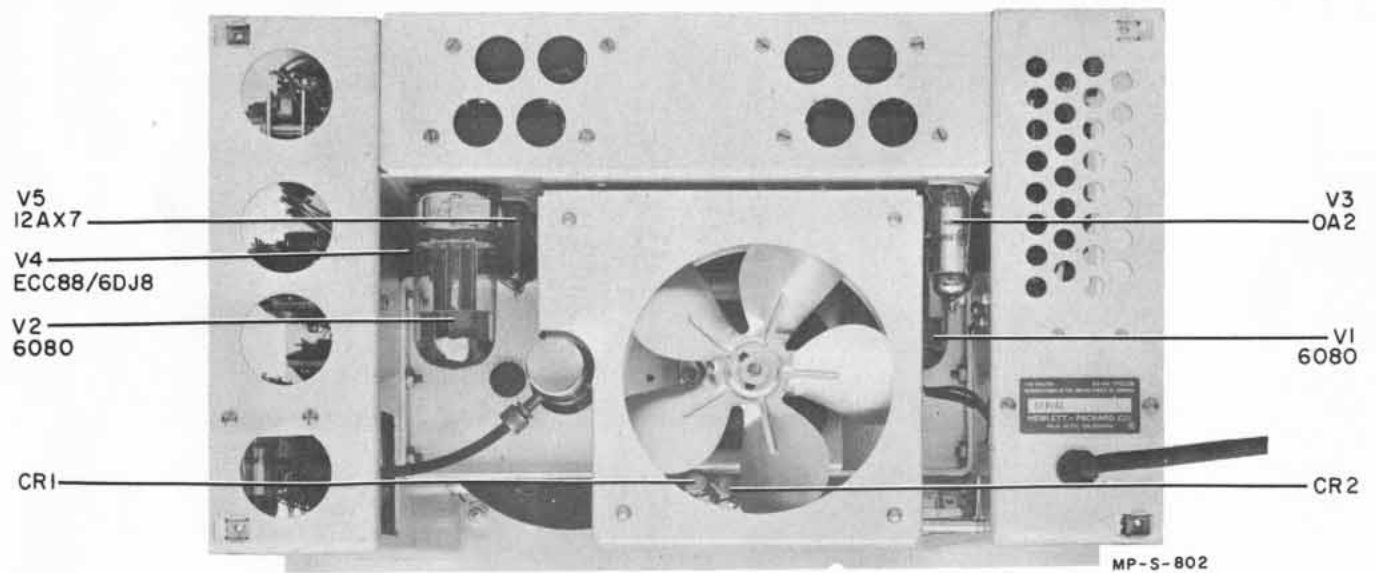

Figure 4-8. Model 686C Rear View
- 3) The bwo tube should be installed so that the rear of the capsule is flush with fan housing (approximately 3-3/8 inches from magnet support bracket). The output fitting should be pointing downward to the left at a 45° angle (see figure 4-8).